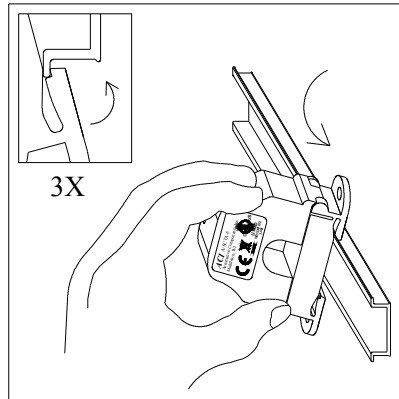

Figure 1: Sensor Placed on Rail
The A/SCTA Series Analog Current Sensors should be used on **Insulated Conductors Only!** The current sensors may be mounted in any position using the (2) #8 x 3/4" Tek screws and the mounting holes in the base or snapped directly on to the 35mm DIN rail (See Figures 1 & 2 below). Leave a minimum distance of 1" (3 cm) between the current sensor and any other magnetic devices such as contactors and transformers.